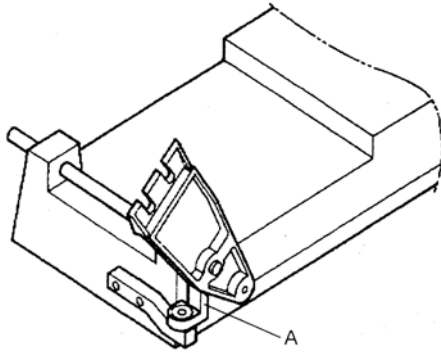

Figure 3
2. Raise bow to vertical position by turning the bow stop (A, Figure 3) a quarter turn clockwise; slowly bring bow to vertical and lock in place by turning the hydraulic cylinder valve to the off position. **Caution: Do not pinch fingers between bow stop and bracket.**